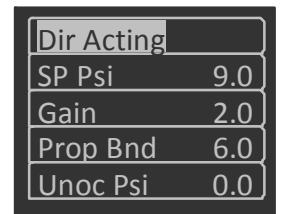

Figure 10: Changing the Direction
5. Change the **direction** as desired (Figure 10).